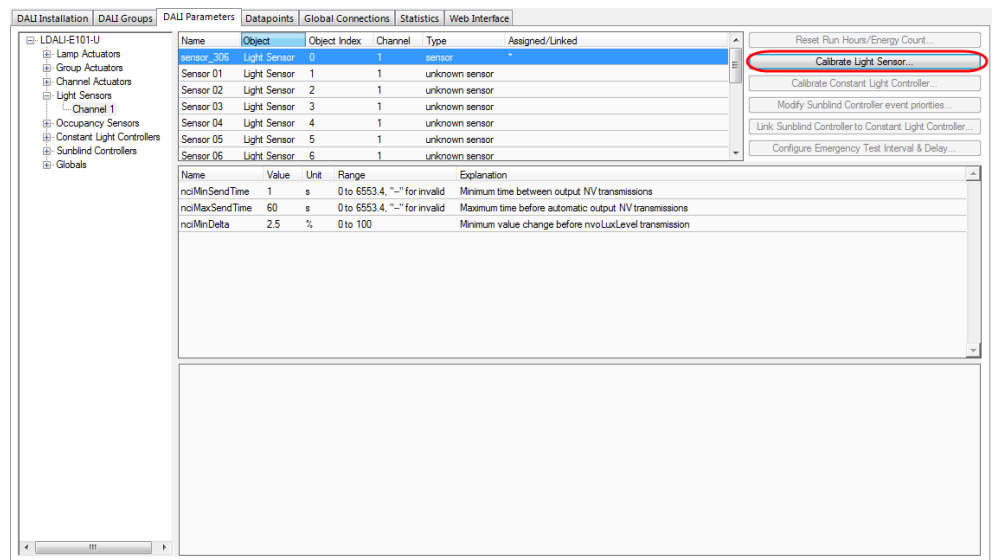
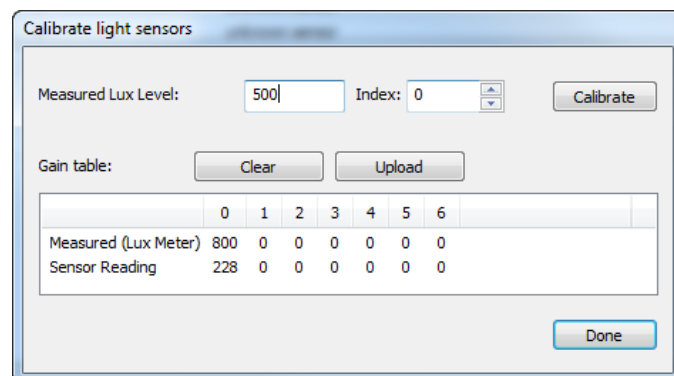

Figure 84: Parameterize Light Sensor.
Figure 85: Calibrate Light Sensor.
- Select the light sensor index 0 and click on the **Calibrate Light Sensor...** button as shown in Figure 84. The light sensor calibration window as shown in Figure 85 is displayed.